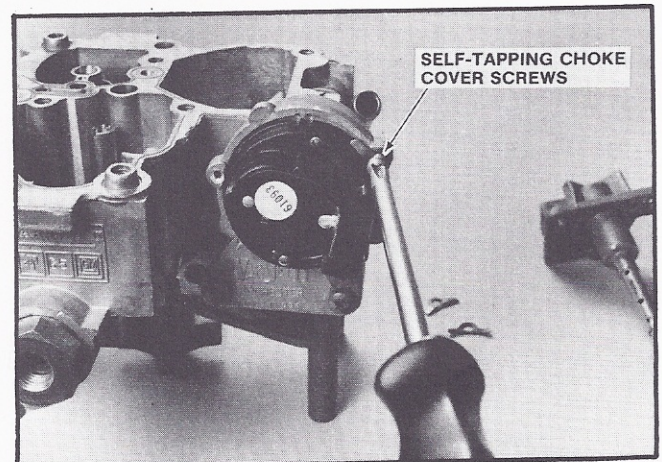

FIGURE 42 SELF-TAPPING CHOKE COVER SCREWS
a. Start the three (3) self-tapping screws in the choke housing, checking to be sure screws start easily and are aligned properly (Figure 42). Then, remove screws.